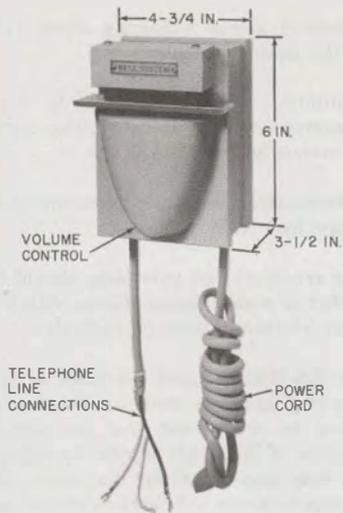

Fig. 18—KS-8229 Chime (MD)
3.13 Signals KS-8229 (MD) (Fig. 18):
5.06 The volume of the KS-8229 (MD) signal chime (Fig. 18) may be adjusted by a screw. No other adjustment should be made. Should the plunger stick in its guide, remove plunger and clean with mineral spirits. If this does not correct operation, replace signal device.